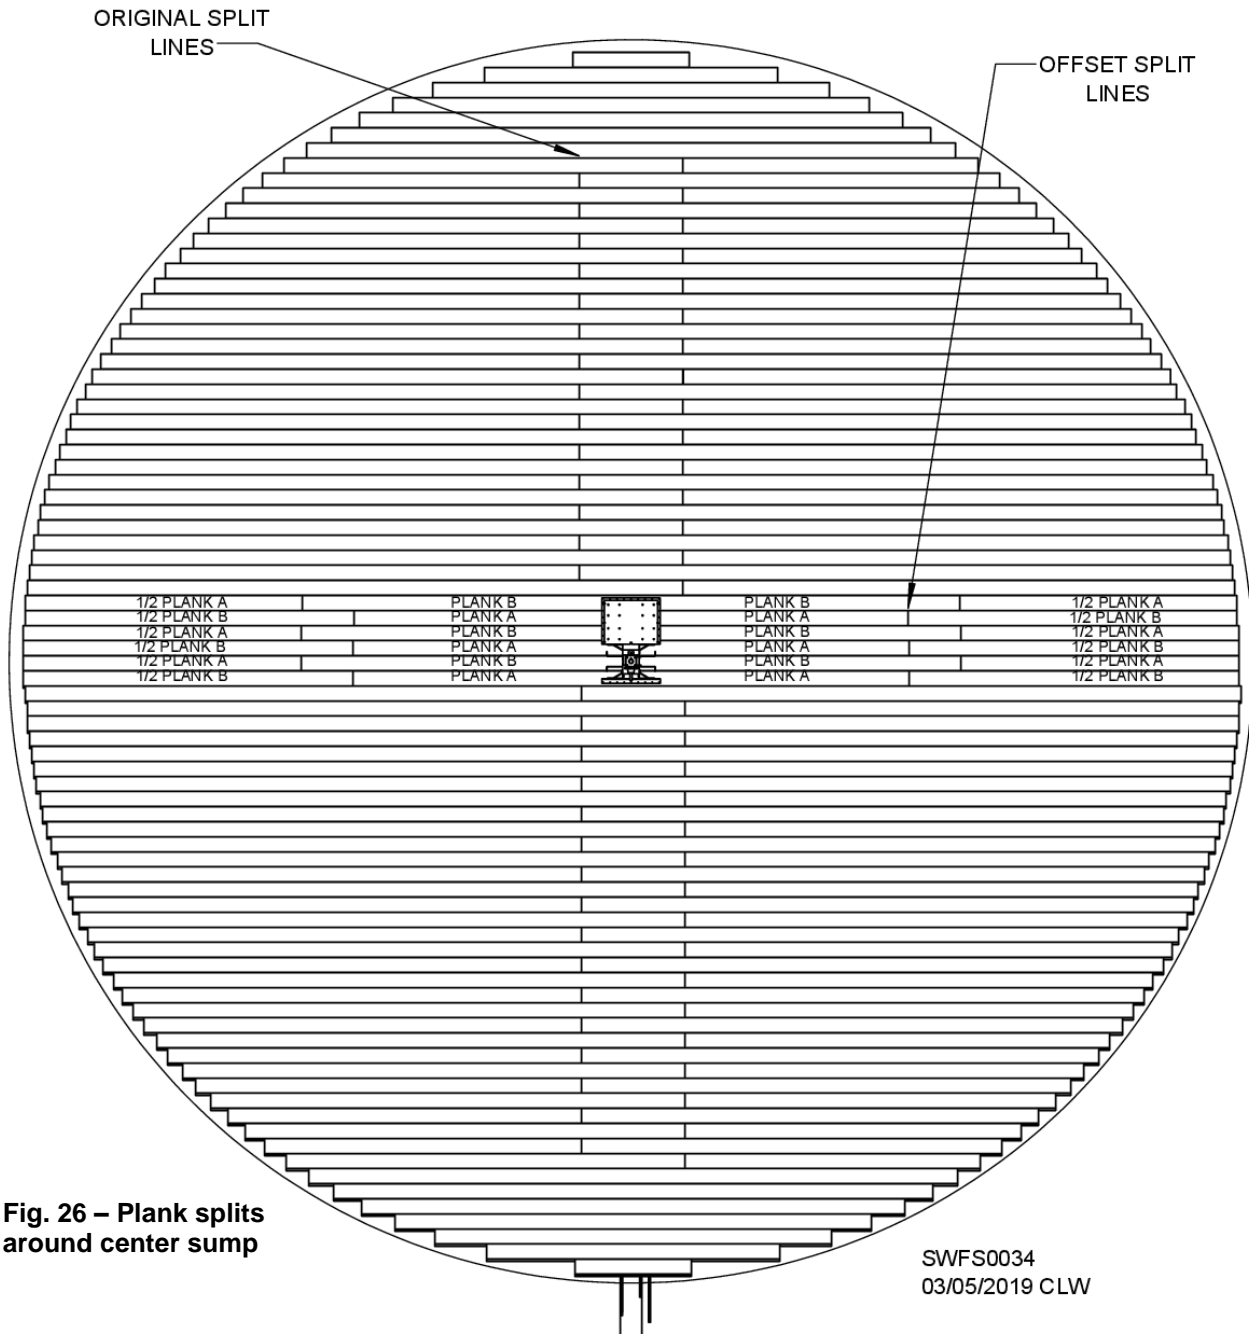

Fig. 26 – Plank splits around center sump
1. Cut "A" plank in half. Use halves as outermost segments of split plank. See Fig. 26.